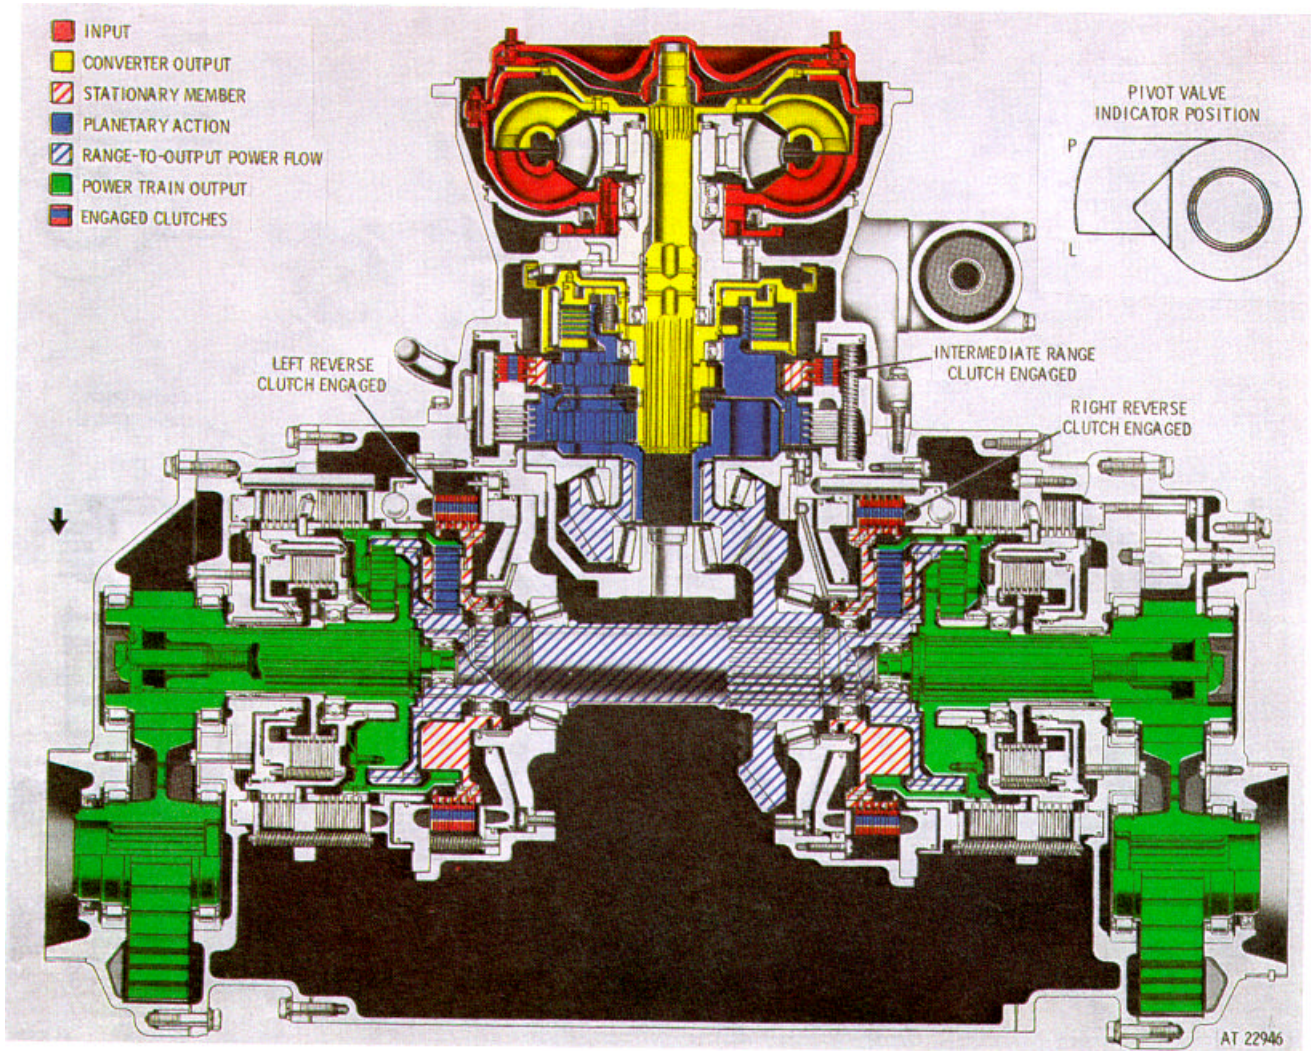

Figure 2-20. Reverse-2 gear, straight travel operation-torque path.
(2) The output shafts transmit torque to the transmission outputs by means of the output transfer reduction gears. The total mechanical speed reduction from the engine through the transmission outputs is 28.098 to 1. At output stall, the total torque ratio available (output-to-engine) is (2.6×28.098) 73.055 to 1.
f. Reverse-2 Gear--Straight Travel (fig. 2-20).